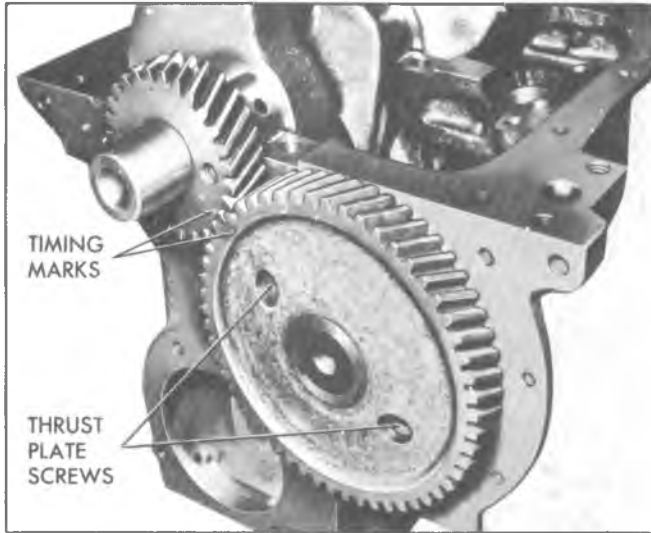

Fig. 16L—Timing Gear Alignment Marks
5. Align timing gear marks then remove the two camshaft thrust plates screws by working through holes in the camshaft gear (fig. 16L).
2. Turn crankshaft and camshaft so that the valve timing marks on the gear teeth will line up (fig. 16L).